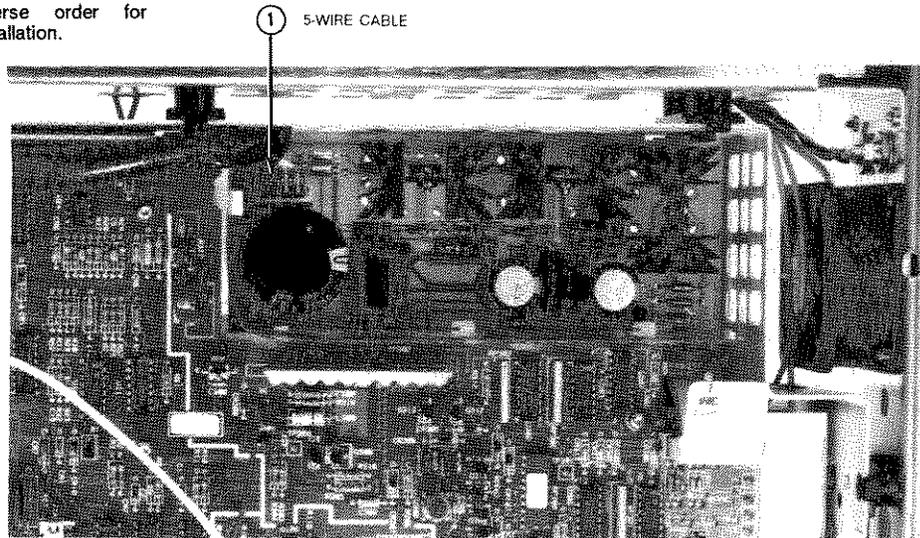

Figure 3-12. Remove/Install Transformer Cable on Inguard Power Supply
The label numbers in Figures 3-12 and 3-13 show the order of assembly removal. Use reverse order for installation.
3. Refer to Figure 3-12. Unplug the 5 wire cable from the Inguard Power Supply assembly. This cable is connected to the power transformer.
7. Refer to Figure 3-12. Locate the cable connected to the power transformer. Line up the cable plug with the socket on the Inguard Power Supply assembly. Then plug the cable in.